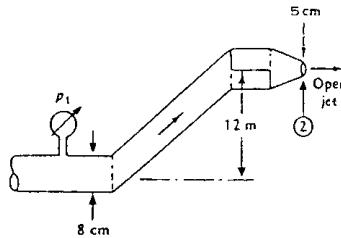

Fig. P3.167
**3.167** In Fig. P3.167 the fluid is gasoline at  $20^\circ\text{C}$  at a weight flux of  $120 \text{ N/s}$ . Assuming no losses, estimate the gage pressure at section 1.